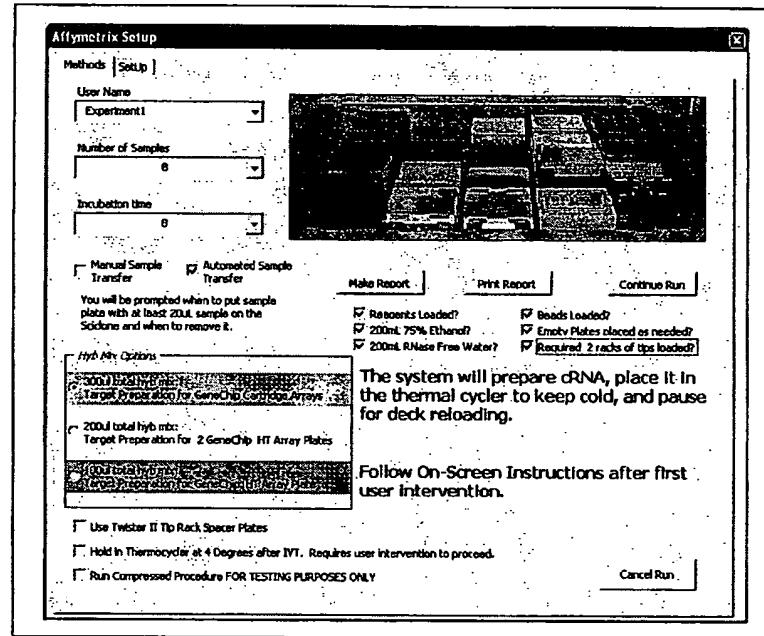

Figure 4.28
- F. Use the six-option checklist on the right side of the window to ensure all reagents and consumables are loaded, and select each option (all six boxes should be checked as in Figure 4.28). The Continue Run button becomes enabled.